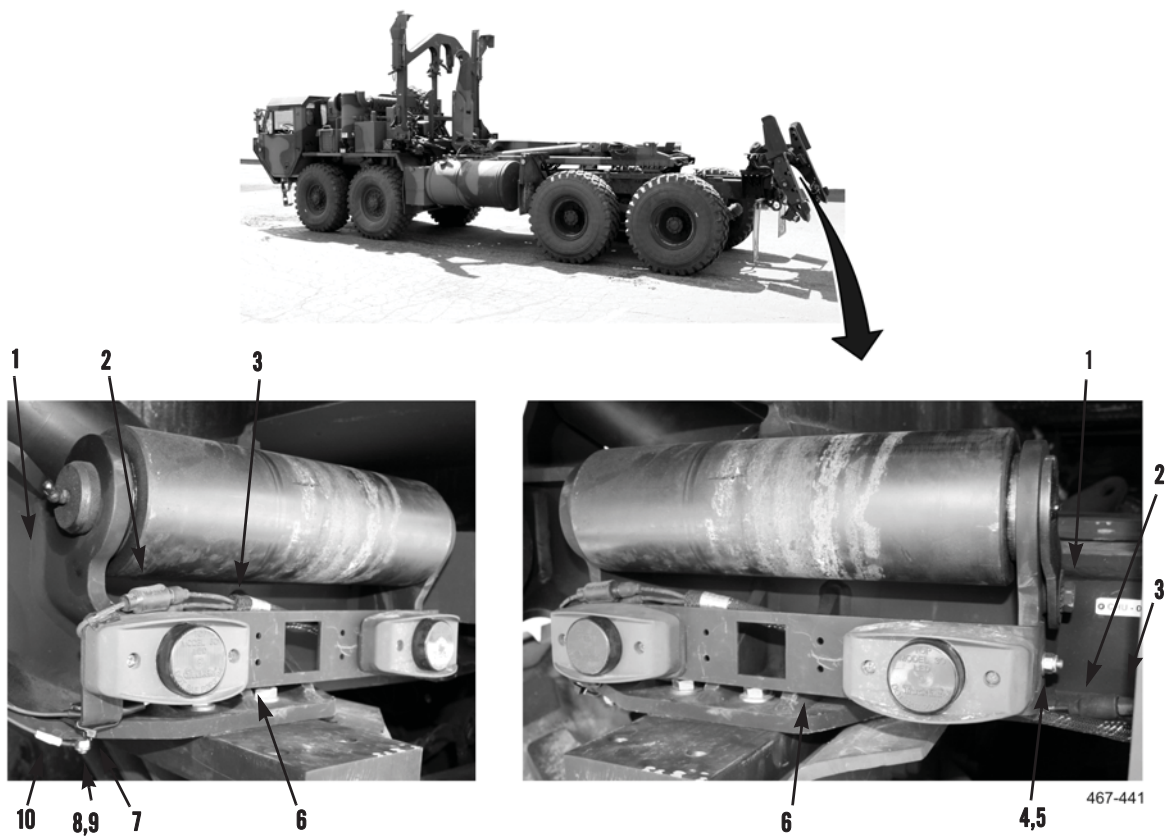

Figure 5. Light Bracket Removal.
5. Disconnect three light connectors (Figure 5, Item 2) from vehicle wiring harness (Figure 5, Item 3).
6. Remove and discard tiedown straps (Figure 5, Item 7) as required.
7. Remove nut (Figure 5, Item 8), bolt (Figure 5, Item 9), and ground wire (Figure 5, Item 10) from slider assembly (Figure 5, Item 1).
8. Remove nut (Figure 5, Item 4), bolt (Figure 5, Item 5), and light bracket (Figure 5, Item 6) from slider assembly (Figure 5, Item 1).